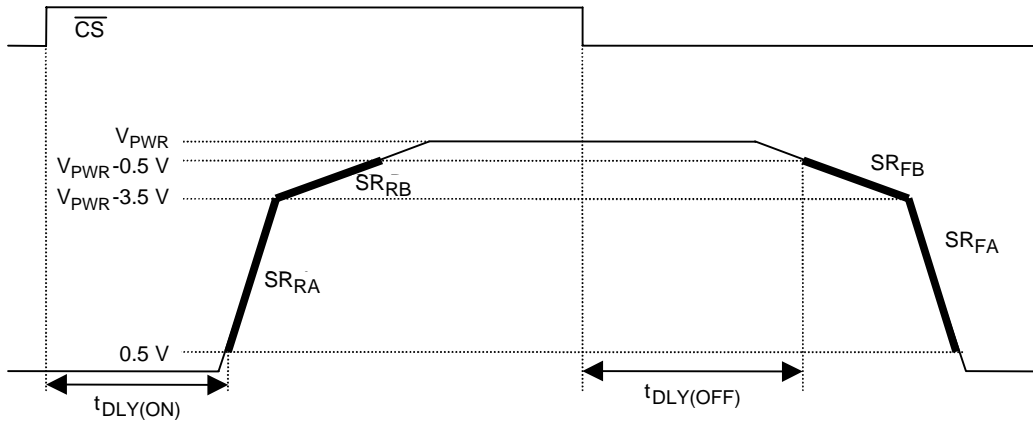

Figure 4. Output Slew Rate and Time Delays
18. Rise and Fall Slew Rates A measured across a 5.0 Ω resistive load at high-side output = 0.5 V to V_{PWR}-3.5 V (see Figure 4, page 13). These parameters are guaranteed by process monitoring.
19. Rise and Fall Slew Rates B measured across a 5.0 Ω resistive load at high-side output = 0.5 V to V_{PWR}-3.5 V (see Figure 4). These parameters are guaranteed by process monitoring.